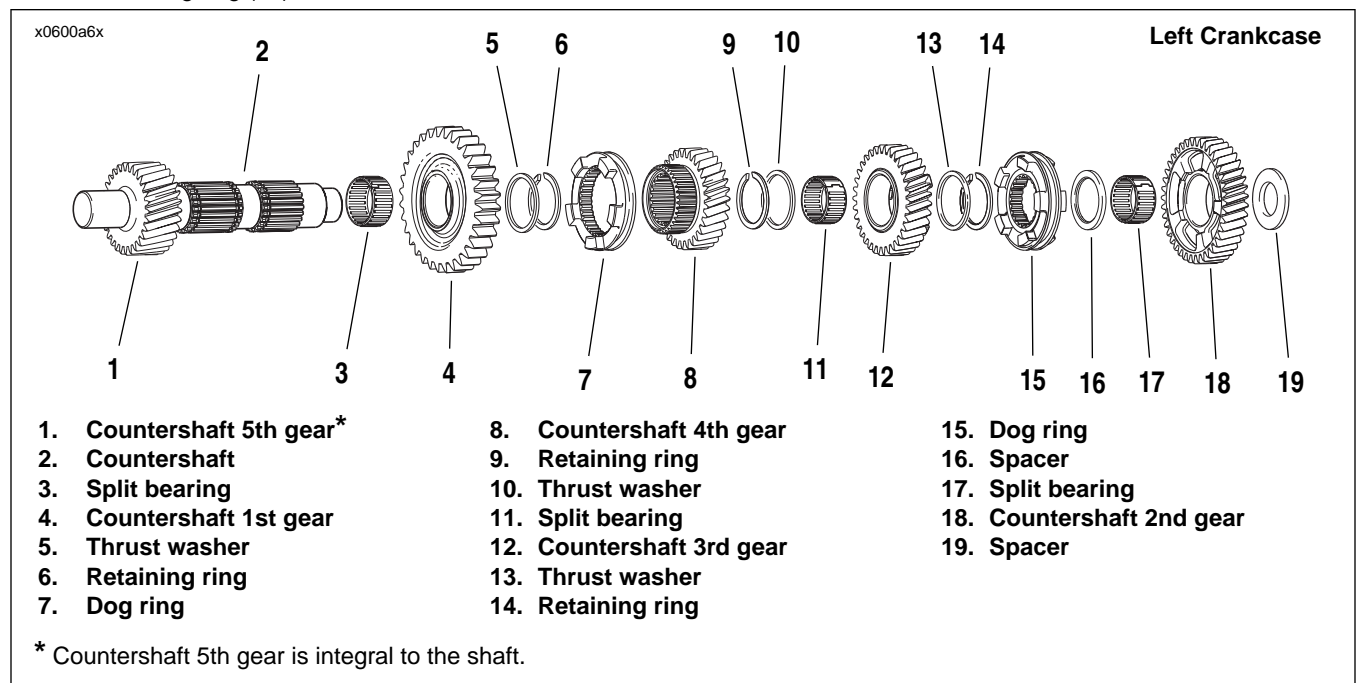

Figure 6-62. Transmission Countershaft Assembly Once Removed from Left Crankcase/Disassembly
1. See Figure 6-62. Remove spacer (19) and 2nd gear (18) from the end of the of the countershaft (2). Remove and discard split bearing (17).
2. Remove spacer (16).